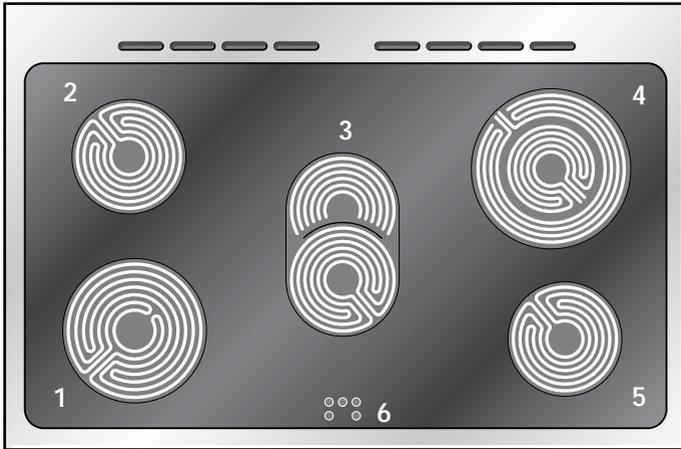

Fig. 1.1
- ✓ When the hob temperature is above 60°C, the corresponding indicator light 6 (Fig. 1.1) will come on to indicate that the hob is hot.